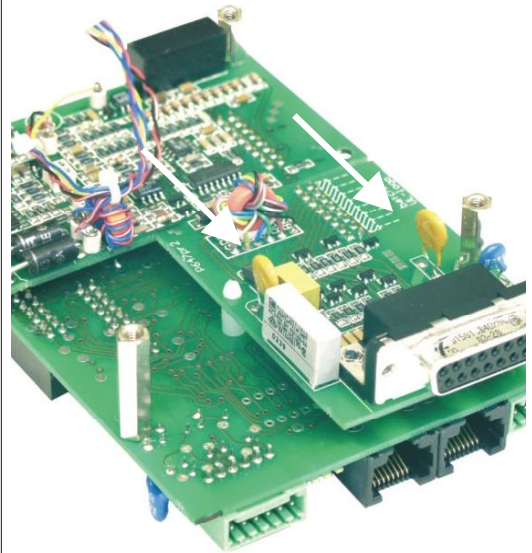

fig. 4 - 14
- Check fuse F27\_2 in series with Ø (pin 8 of CON E), see fig. 4 - 14. To check the fuse measure the voltage between Ø and the minus output, a high voltage means too much current flowing through the fuse. F27\_2 = 650 mA, self resetting.